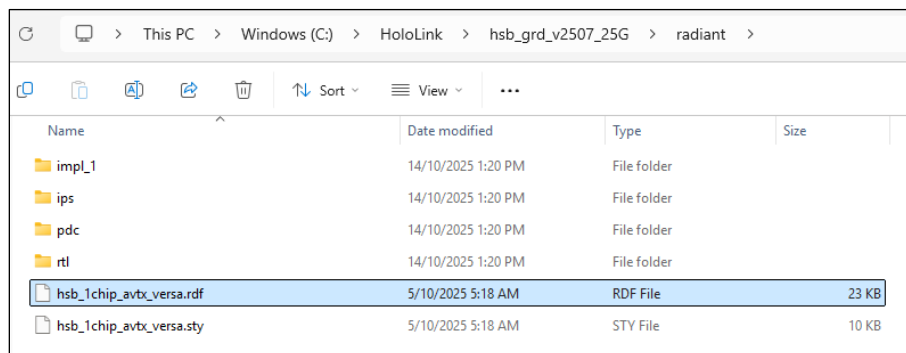

Figure 5.4. Open Project File
2. Click **File > Open Project**. From the project database, open the Lattice Radiant software project file (*hsb_1chip_avtx_versa.rdf*), as shown in Figure 5.4.